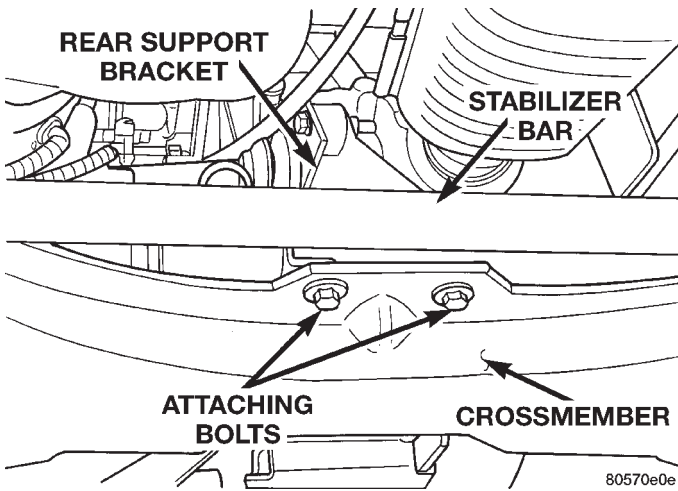

Fig. 13 Rear Support Bracket Attachment To Crossmember
(15) Remove the 2 attaching bolts from the rear support bracket (Fig. 13) at the rear of the front suspension crossmember.
(7) Install the 2 bolts attaching the rear support bracket, for the under engine support bracket (Fig. 13), to the rear of the front suspension crossmember. Tighten bolts to a torque of 75 N·m (55 ft. lbs.).